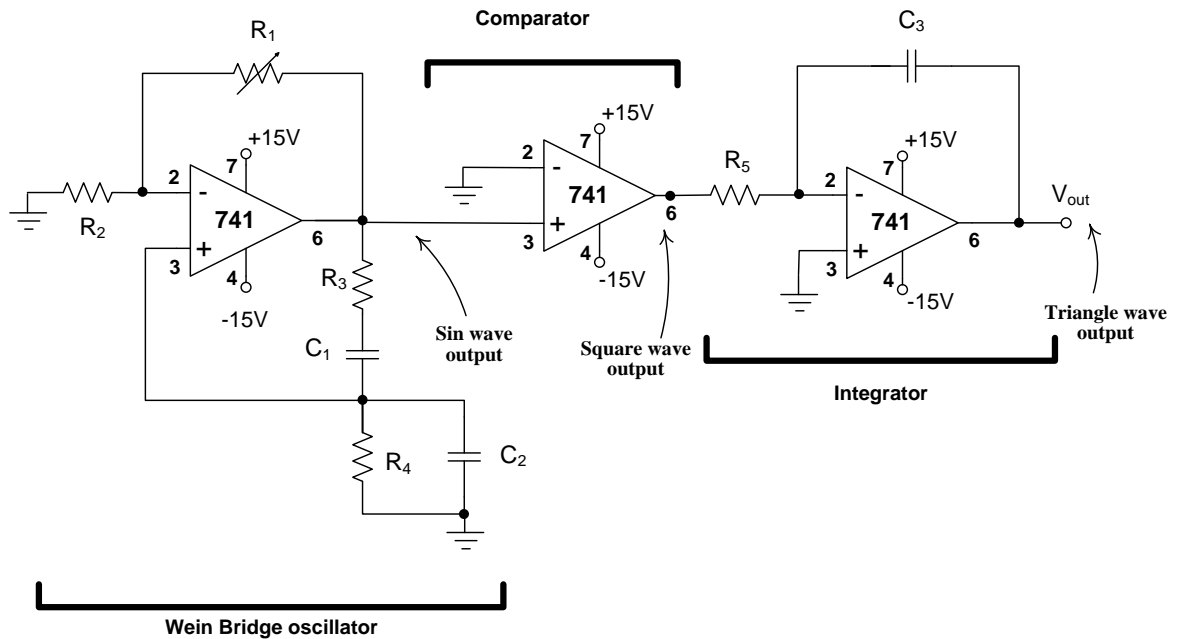

Figure 5: A simple circuit to generate square and triangular waves from Sin wave.
You may also start with a sin wave signal and generate the other two waves. Using a comparator after the sin wave will produce a square wave output. Then use an integrator to change the square wave to triangle wave as shown in Figure 5.
4. Design the integrator of Figure 5 such that when the input is square wave with frequency 1.53kHz the output voltage will have same amplitude. Use capacitor of 20nF.
3. Use signal generator to provide sine wave with frequency of 1.5kHz with amplitude of 18V (P-P). Construct the circuit of Figure 5 to generate square and triangle waves. Sketch the different outputs.